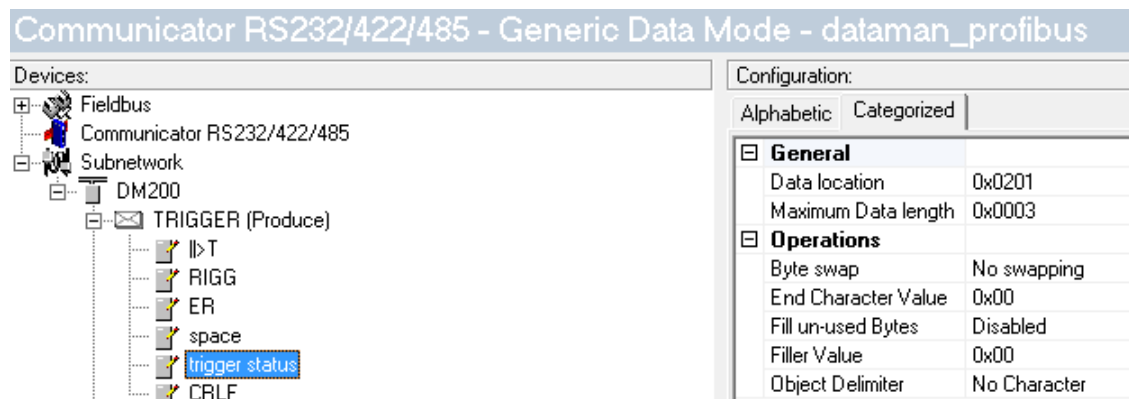

Figure 15 - Trigger status settings
- c. No modification is needed for the other parameters, see figure 15.